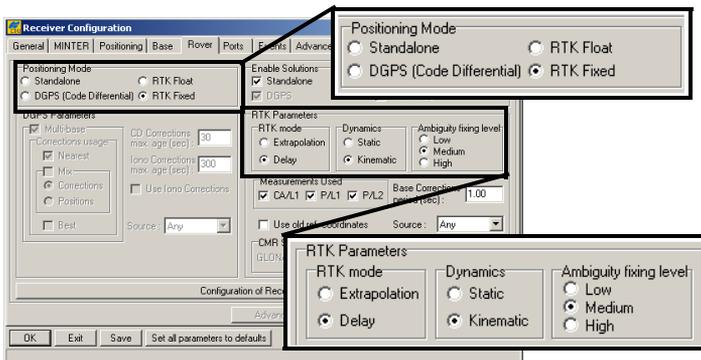

Figure 3-26. Rover Configuration
- For the Rover receiver, click the *Rover* tab, and set the following parameters, then click **Apply** (Figure 3-26 on page 3-32).